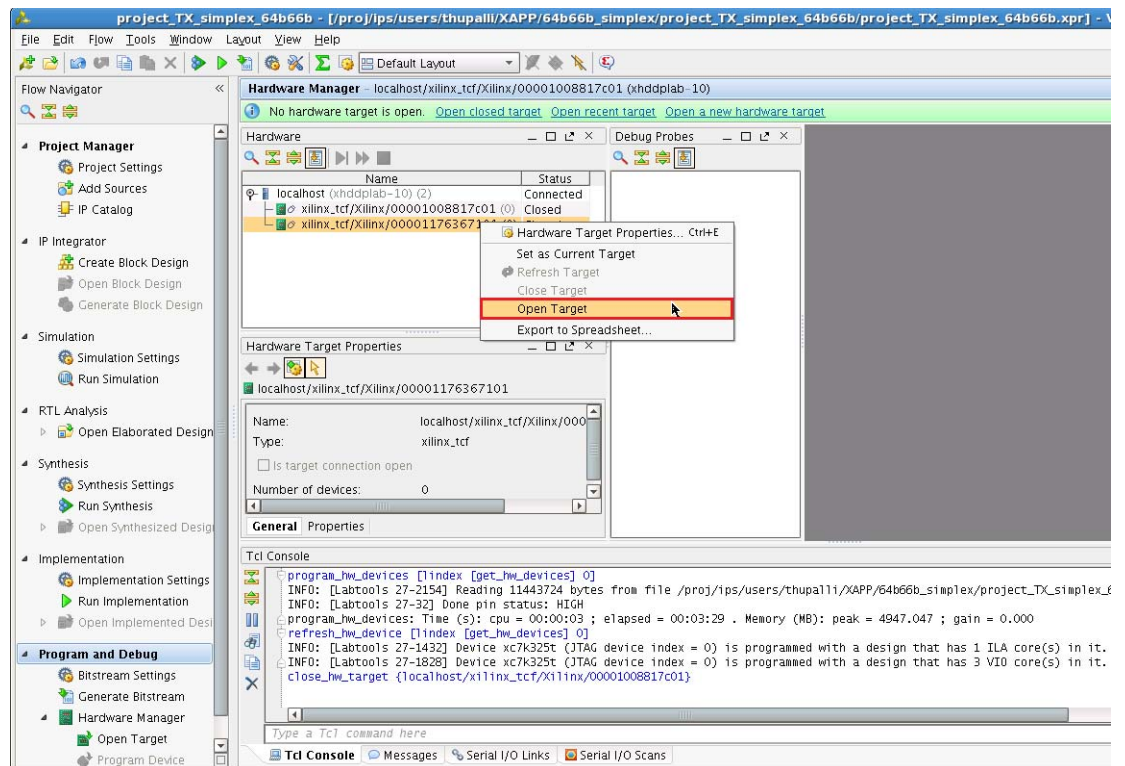

Figure 22: Open Second Target Platform
- Right-click the second target platform in the Hardware list and select **Open Target** (Figure 22).